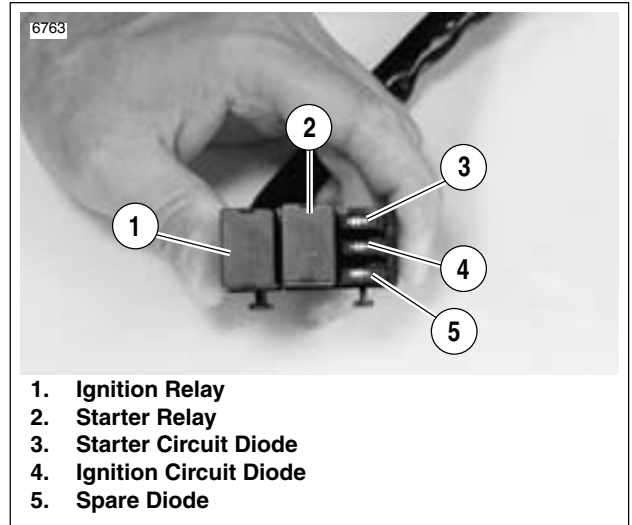

Figure 5-6. Starter Relay Location
1. See Figure 5-6. Locate starter relay (2). The relay is in relay block which is located on right side under tail section. Remove seat and tail section. See 2.34 TAIL SECTION
2. See Figure 5-6. Unplug relay from relay block.